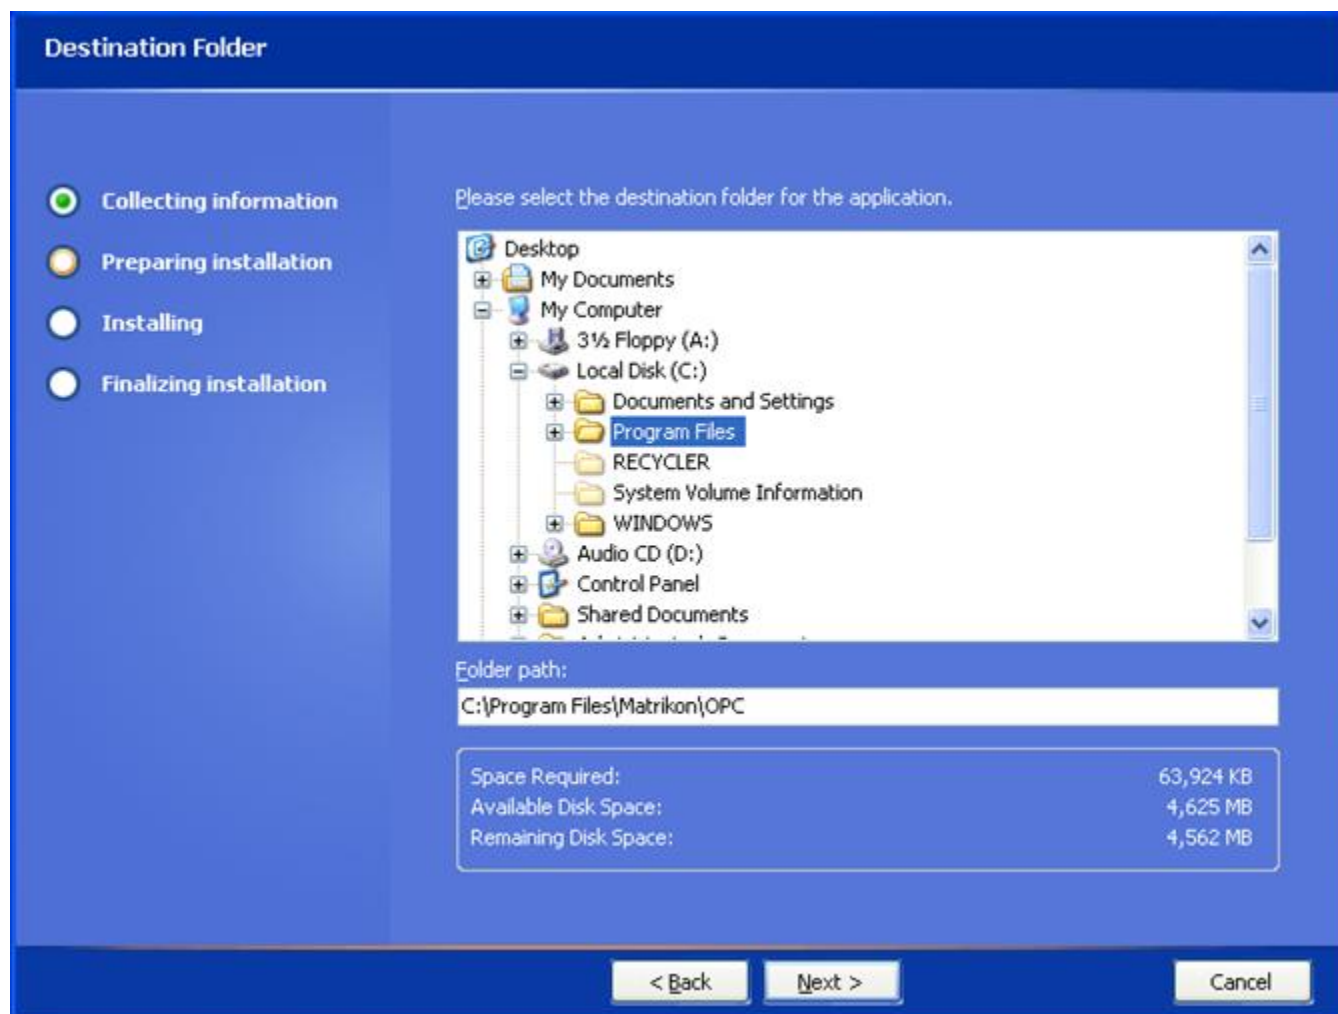

Figure 87 - Destination Folder Screen
10. Click on the **Next** button. The **Destination Folder** screen (Figure 87) appears.